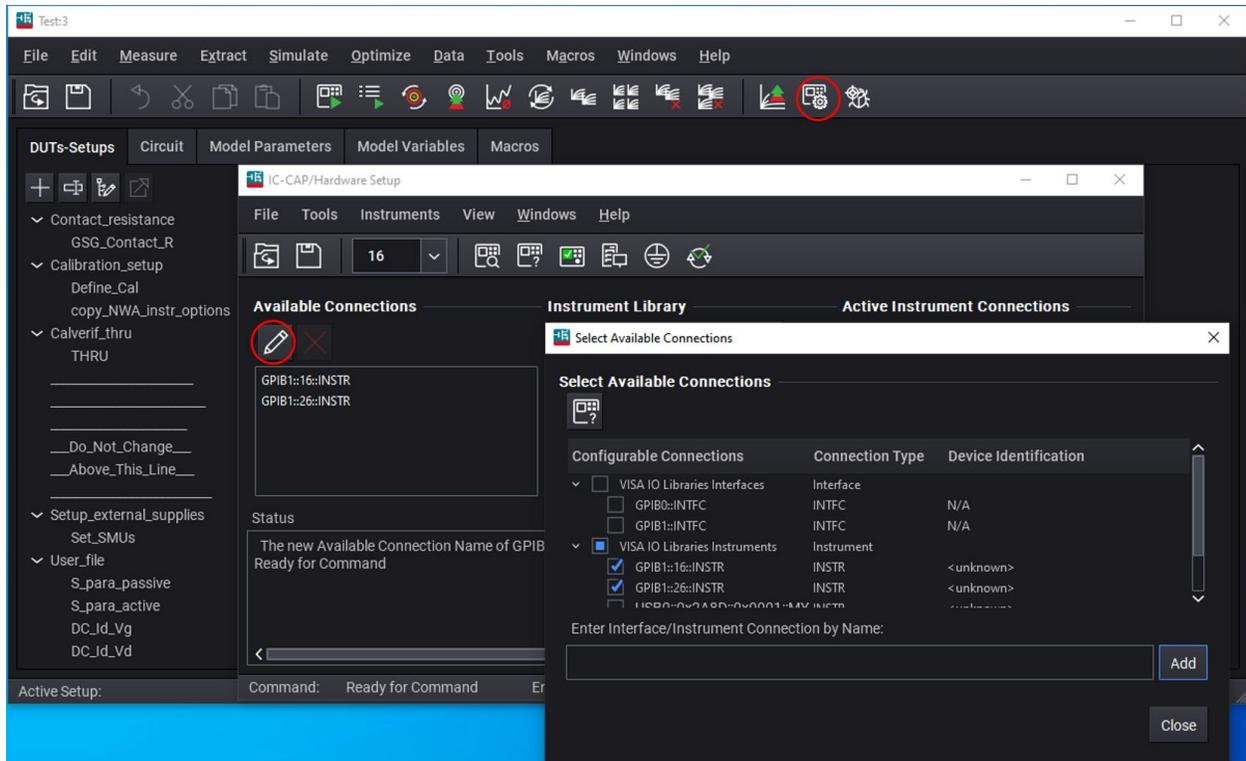

Fig. 7.2. "Test" hardware setup.
- 7.4 On the "Test" top menu, click on  to open the window for "IC-CAP/Hardware Setup" as shown in Fig. 7.2.
what "Interface/Instrument Connection" to add. Just click on "OK" to return to Fig. 7.2 before closing it.